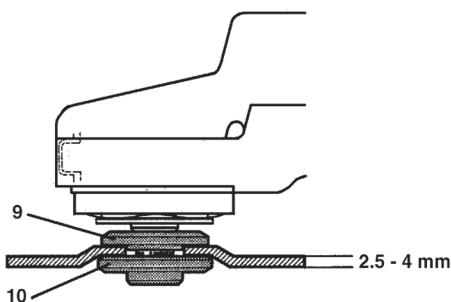

Fig. 4
Fig. 4 and 5 show how to mount the flange (10) when using thick (4-8 mm) and thin (2.5-4 mm) discs.